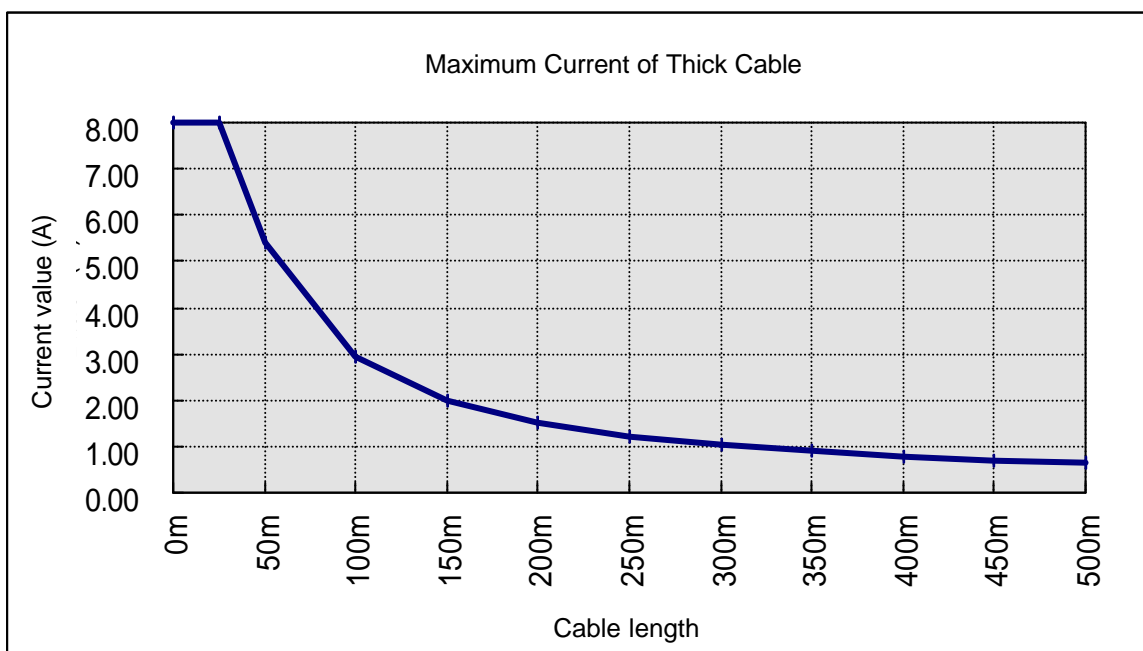

Figure 3.10 Current of the Trunk Line (thick cable)
- c) Based on the cable type (thick cable, thin cable) used for the trunk line and the full length of the network obtained through procedure b), get the maximum current value available on the cable by using Figure 3.10 and Figure 3.11
- c) Maximum current = 1.53 A available on the cable, based on Figure 3.10
(4) Single Power Unit Central Connection
- c) Maximum current available on the cable based on Figure 3.10 = approx. 2.56 A
- Maximum current available on the cable based on Figure 3.10 = approx. 2.56A (Obtain the approximate value between 100 to 150 meter straight cable.)
- c) Maximum current available on the cable in section 1, based on Figure 3.10 = approx. 2.19A